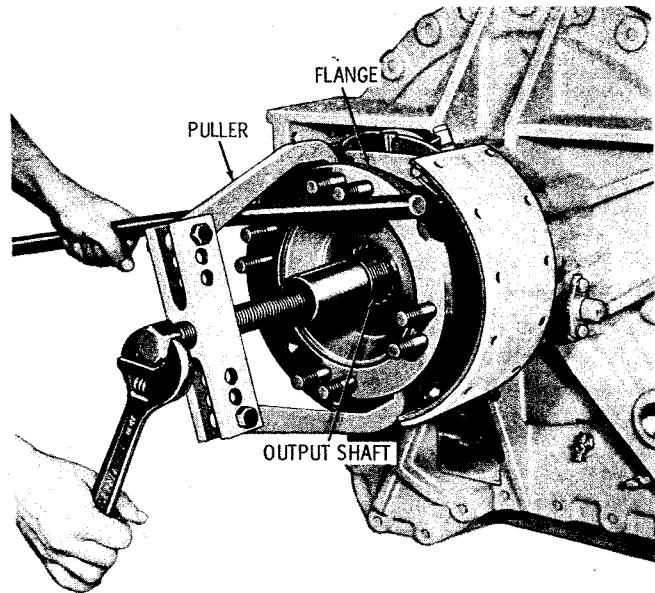

Fig. 5-54. Removing output flange
(4) Using a puller, remove the output flange or coupling 12 (B, foldout 17) from the transmission output shaft (fig. 5-54). If the flange is a tight fit, refer to paragraph 4-8.